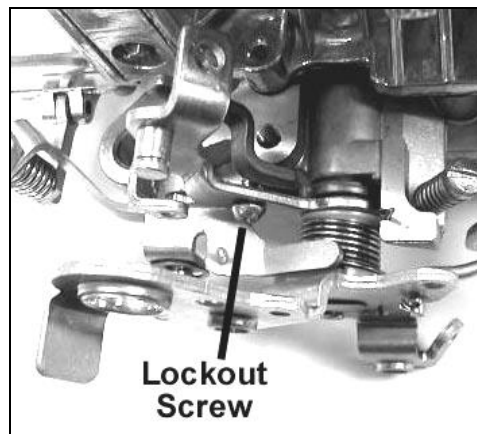

Figure 6—Ford applications
3. Remove the lock out screw from the kickdown lever (**Figure 6**).